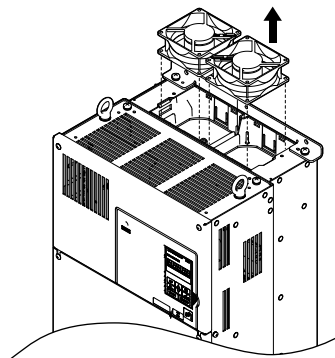

Figure 7.15 Remove the Cooling Fan: 4A0088 and 4A0103
2. Lift up directly on the cooling fan as shown in Figure 7.15. Unplug the relay connector and release the fan from the drive.